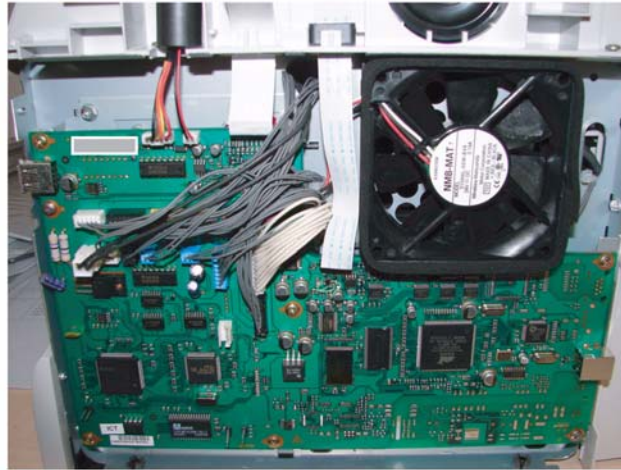

Figure 4
2. Connect all connectors to the CPU board, Figure 4.